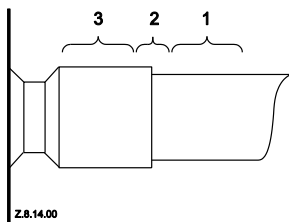

Figure 5: Suction tube brazing
**Figure 5** shows the proper procedures for brazing the suction and discharge lines to a scroll compressor.